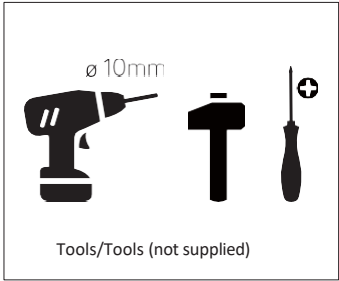

Fig. 4
- The device must only be installed in a vertical (upright) position on a non-combustible and stable surface (wall) at a sufficient distance from combustible materials (see Fig. 4).